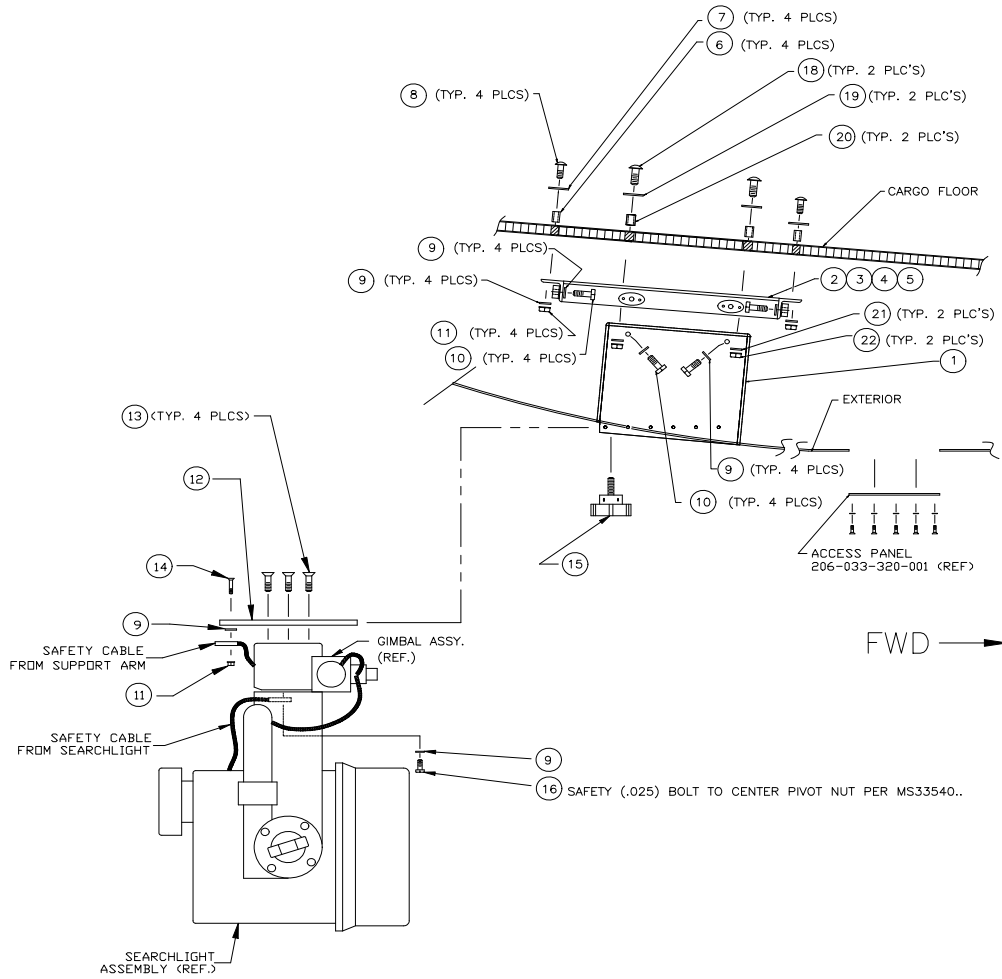

Figure 8: Searchlight Installation
* These components are necessary to complete re-routed drain lines, not displayed in Figure 8.